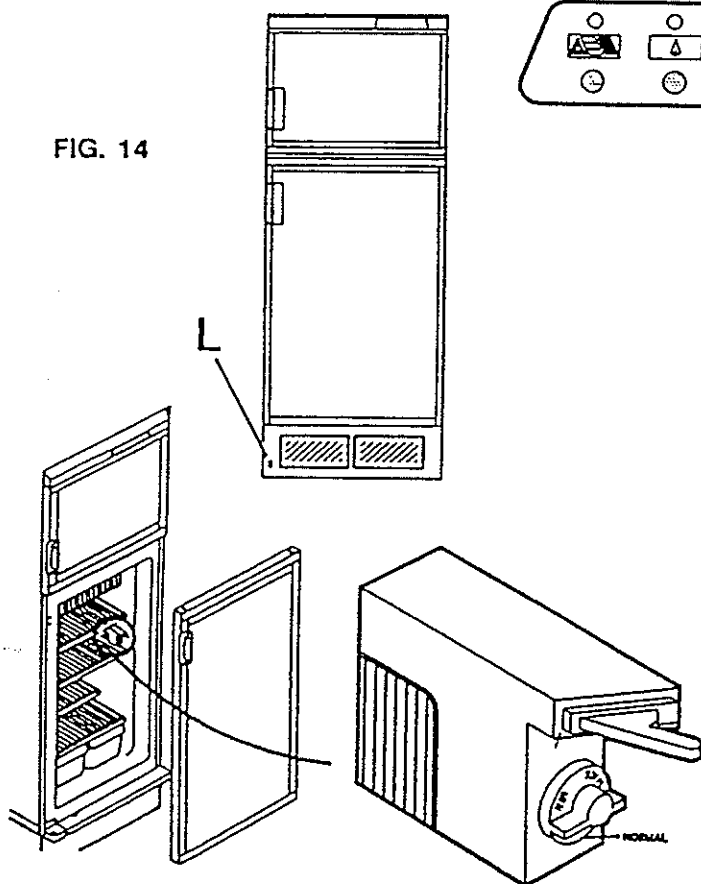

FIG. 14
- B. Turn thermostat knob (FIG. 14) to normal setting (mid-range).
The refrigerator is equipped with a thermostat (FIG. 14) that can be adjusted to maintain various temperatures. Turn the knob clockwise () toward "MAX" for a lower temperature and for a warmer temperature turn the knob counter-clockwise () toward "MIN". Set the thermostat approximately mid-range and adjust it toward "MIN" or "MAX" to obtain the desired cabinet temperature.